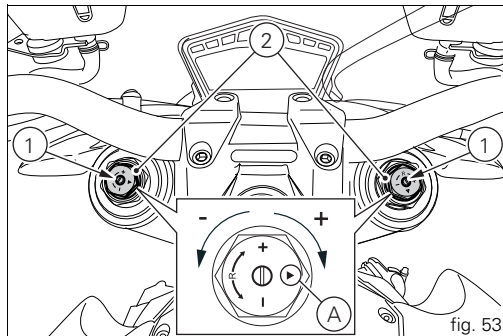

fig. 53
- 1) to adjust rebound damping (fig. 53);
- 2) to adjust spring preload (fig. 53);
To change preload of the spring inside each fork leg, turn the hex. adjuster (2, fig. 53) with a 22 mm hexagon wrench, starting from the fully open position (clockwise). From reference (A, fig. 53), every full turn clockwise corresponds to 1 mm of preload of the spring, up to a maximum of 15 mm, corresponding to 3 full turns.